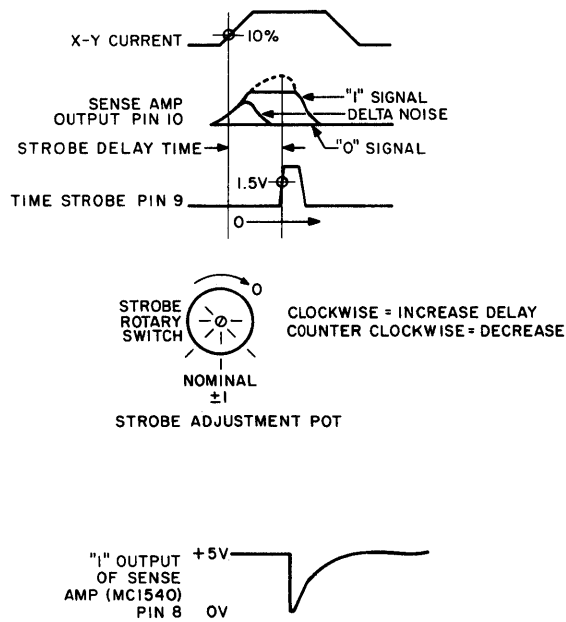

Figure 5-6 Setting of Strobe
**5.2.9.2.7 Strobe Setting Procedure** – Setting the strobe properly is very important and must be done carefully. The chosen setting scheme makes this procedure relatively simple. Figure 5-6 illustrates the relationship between the XY current-sense amplifier output and strobe.
| 1    | The switch has to be set to one of the three possible nominal positions (see Figure 5-6).  |